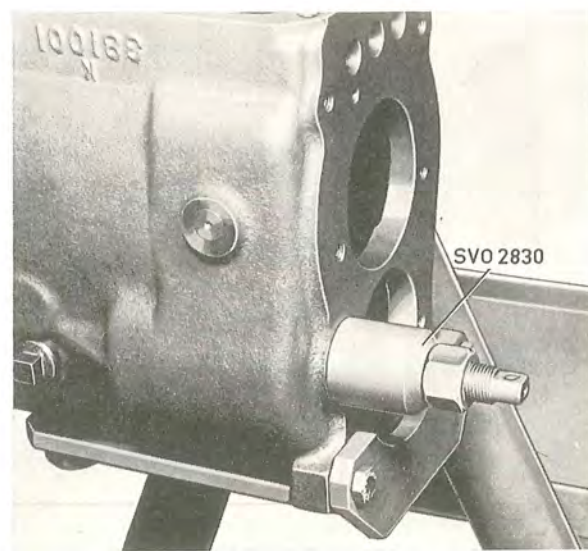

Fig. 4-23. Removing the reverse shaft
10. Pull out the reversing shaft with puller SVO 2830, see Fig. 4-23, and remove the reverse gear.